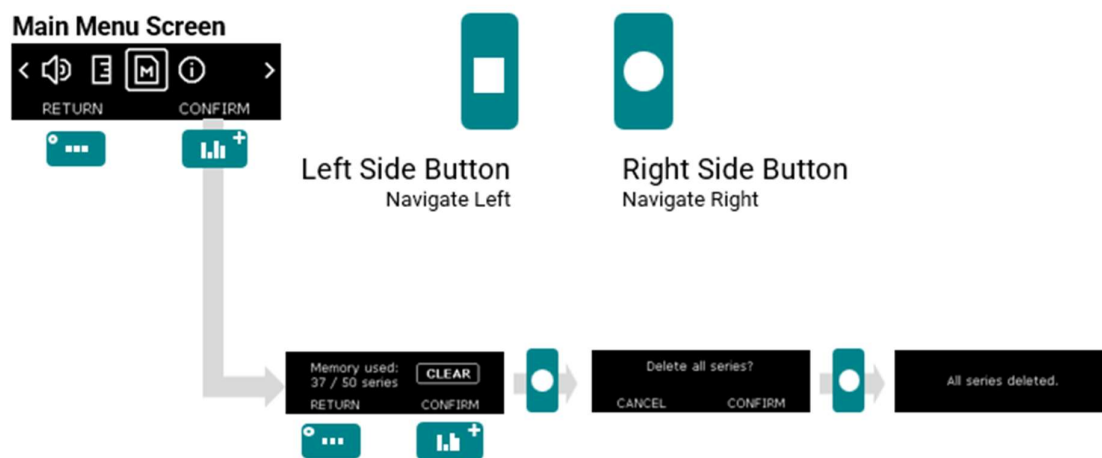

Figure 21 : Menu – Memory
2. Manually delete all spot measurements series as explained in Figure 21.